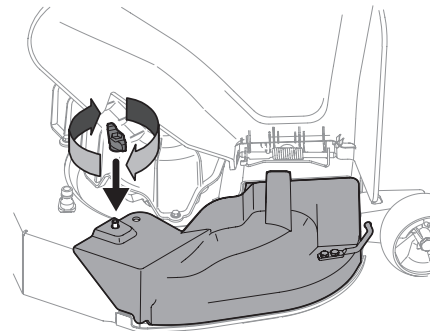

Fig. 6
3. Secure the mulch plug in place with the wing knob. See Fig. 6.